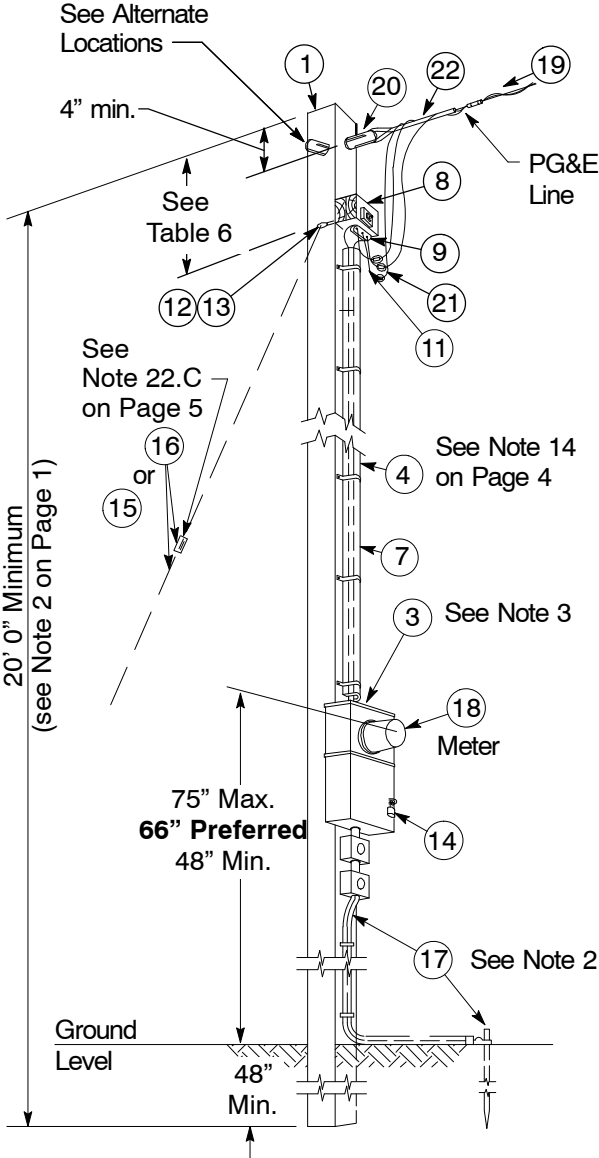

Figure 2
- A. Temporary Poles: Anchor guy as shown in Figure 13 on Page 11, or with wood braces not smaller than 2" x 4" timber and securely bolted to the pole as per Figure 14 on Page 11. See Figure 2 on Page 7 for the correct placement of guy or brace.
Non-substantial structures that have been approved for the attachment of metering equipment and service periscopes may be served in the manner shown on Page 13. However, if desired, the metering equipment may be removed from the structure and placed on the temporary pole as shown in Figure 2 on Page 7.